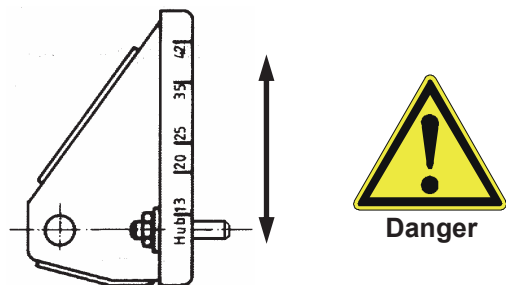

Fig. 2
- ◆ The position of the transfer bolt must correspond to the valve stroke see Fig. 2